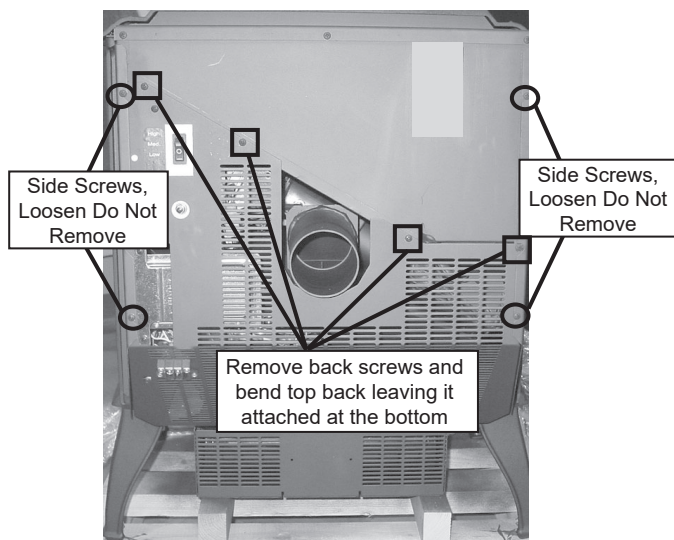

Figure 27.1
- Remove 4 screws from the back screen and pivot the top of the screen toward you leaving the bottom attached to appliance (**Figure 27.1**).